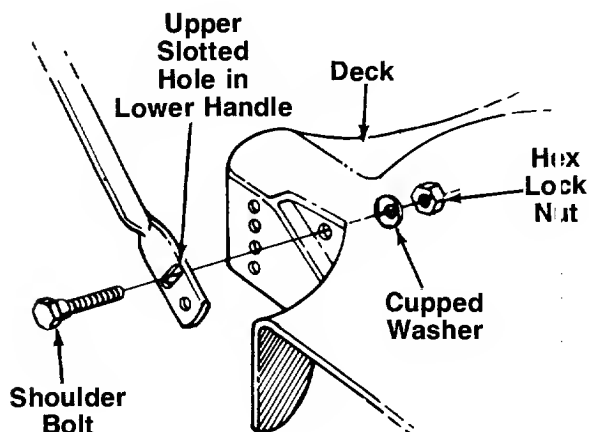

FIGURE 2.
**Type A**—Attach the lower handle by lining up the upper slotted hole in lower handle with the mounting hole on deck and the hole in the rear baffle (on the inside of the deck). Make certain the instruction label on the lower handle can be read from the operating position. Place shoulder bolt through lower handle, deck and baffle. See figure 2. Place cupped washer on the shoulder bolt, with the cupped side of the washer against the baffle. Secure with hex lock nut.